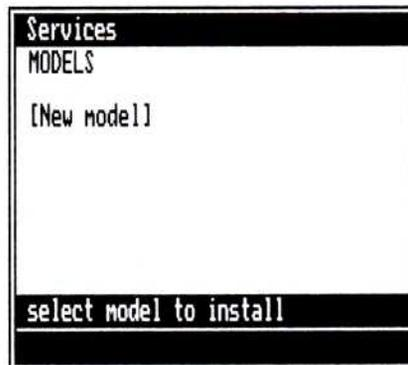

Figure 13. After selecting "install," select the printer you are installing from the displayed list of printers, or you can select [New model].
3. Select "install" from the Configure menu. The system displays a list of already installed printer drivers and an item called "[New model]" (see Figure 13).